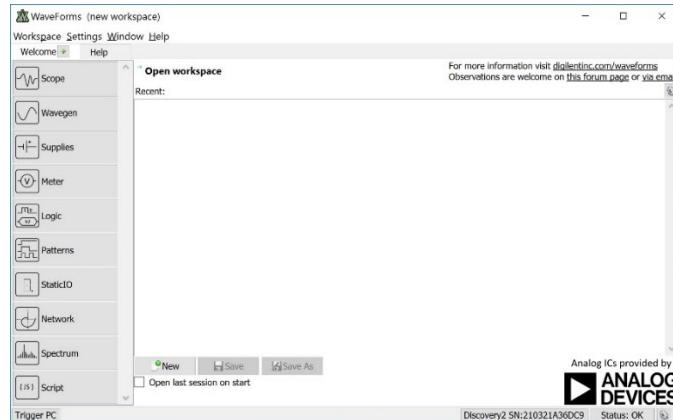

Figure 9.5
Launch *Waveforms* (Start –Digilent – *Waveforms*). The software will automatically recognize the Analog Discovery and connect. The *Waveforms* startup window shown in Figure 9.5 will appear. From this window, you can launch all of the tools associated with the Analog Discovery. Each tool brings up a new tab within the workspace window. Multiple tools can be launched and ran at the same time.
In this lab exercise you are going to create a FSM that will produce a walking 1 pattern within a 10-bit vector. The 10-bit output vector will drive the 10x red LEDs and lower 10x pins on the GPIO header. This FSM will require 10x states and use Moore-type outputs. The direction of the walking 1 pattern will be dictated by SW(0). When SW(0)=1, the pattern will walk from LEDR(0) to LEDR(9) and repeat. When SW(0)=0, the pattern will walk from LEDR(9) to LEDR(0) and repeat. Figure 9.5 shows a graphical depiction of the walking 1 patterns as seen on the red LEDs.